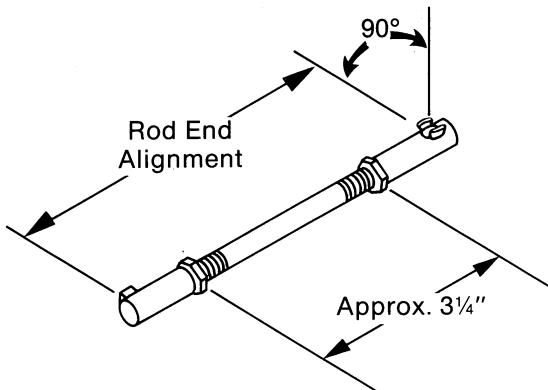

FIG. 28
C. Check adjustment or readjust rod ends on shift rod to dimension shown in (Fig. 28).
NOTE: When readjusting rod ends, proper alignment of rod ends must be maintained to install shift rod back into place. See (Fig. 28)